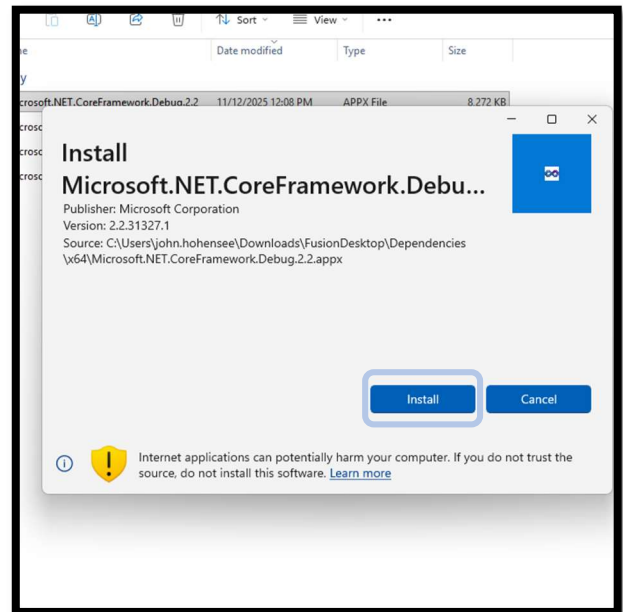

Figure 13: Example of .appx file Install Screen
17. Figure 13 shows an example of an install screen.